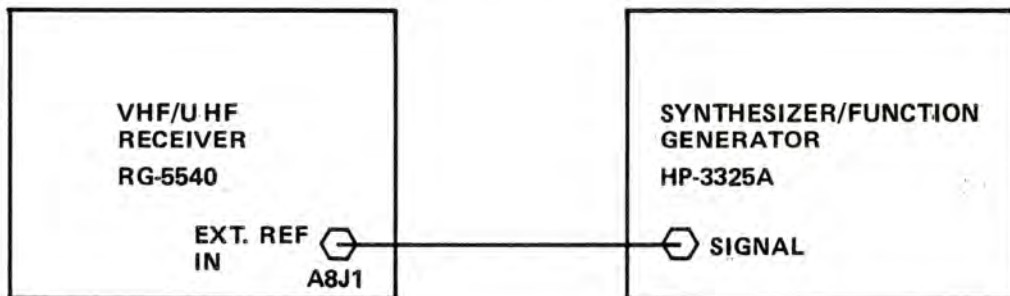

Figure 5-6. Reference Frequency Test Set-up
1. Connect test equipment as shown in Figure 5-6. Turn synthesizer/function generator on and allow at least 30 minute warm up time.